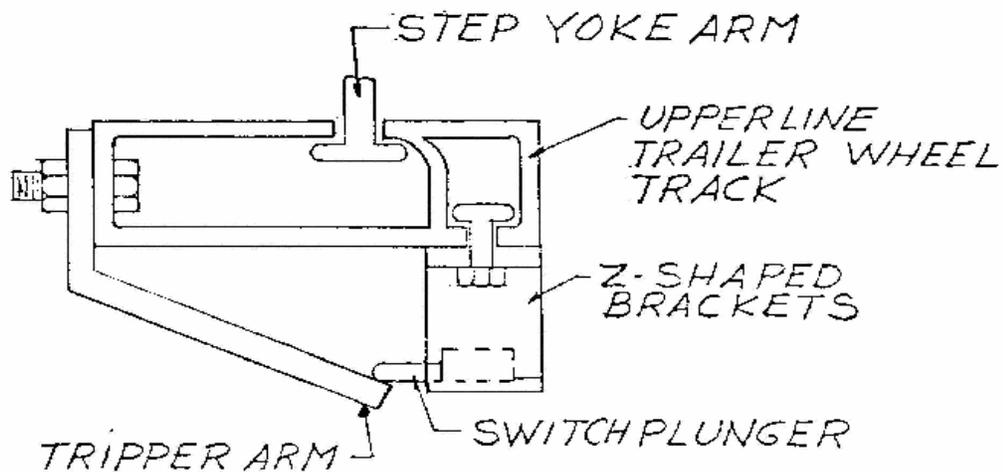

Figure 8-10m Otis Upthrust Safety Device (step safety switch)
Otis Upthrust Safety Device or Step Safety Switch (figure 8-10m below)
5. A broken step trailing wheel in figure 8-10m p15 will actuate ___ safety device?